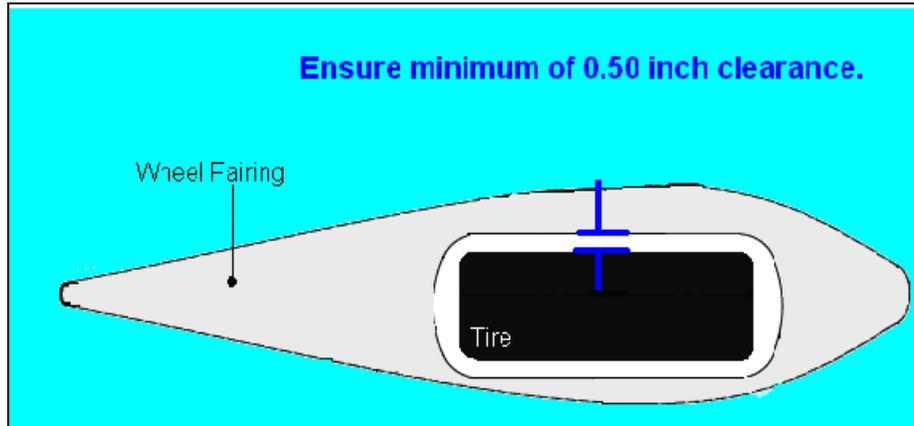
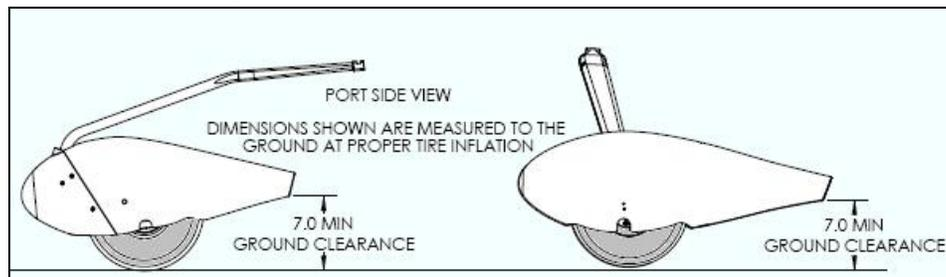

Figure 32-14 Wheel Fairing Clearances
Figure 32-15 Wheel Fairing Clearance
2. Inspect fairings for proper installation alignment as shown in Figure 32-14 and Figure 32-15.